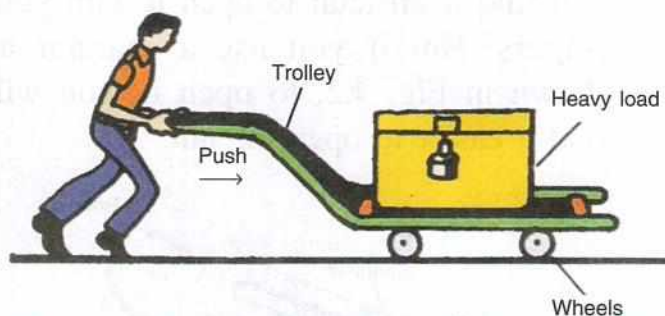

Fig. 4.4 A boy carrying a heavy load on a trolley
4. Suppose you are to move a heavy load from one place to another. You will find it very difficult to move it by lifting or pushing it. But if you take a trolley and place the load on it, then it becomes much easier for you to move it by pushing the trolley (Fig. 4.4). You must have seen coolies using the trolley to carry heavy loads at the railway station or airport.